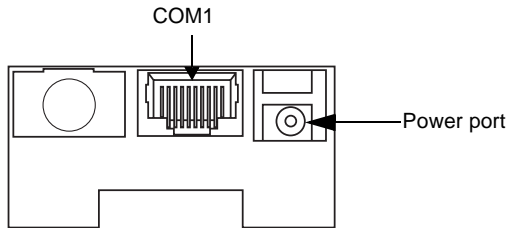

Figure 1-1. Ports on the Cradle
2. Connect the Synapse cable to the cradle's COM 1 port (see Figure 1-1).